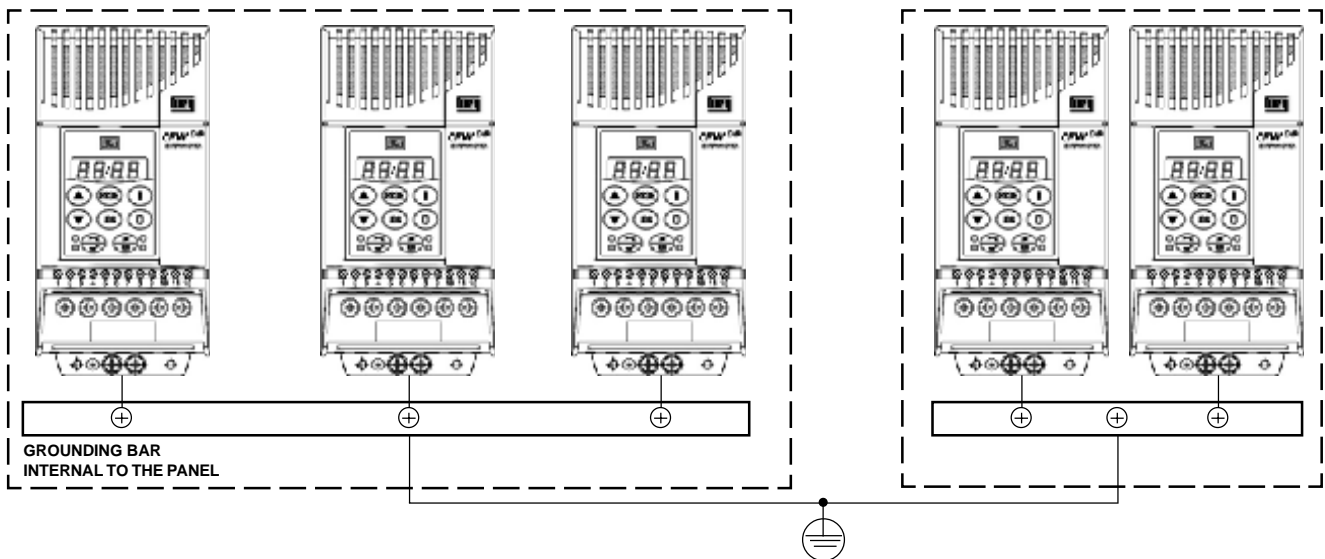

Figure 3.5 - Grounding connections for more than one inverter
The inverter must be grounded to a protective earth for safety purposes (PE). The earth or ground connection must comply with the local regulations. For grounding, use cables with cross sections as indicated in Table 3.3. Make the ground connection to a grounding bar or to the general grounding point (resistance $10 < \text{ohms}$). Do not share the ground wiring with other equipment that operate with high currents (for instance: high voltage motors, welding machines, etc). If several inverters are used together, refer to Figure 3.5.